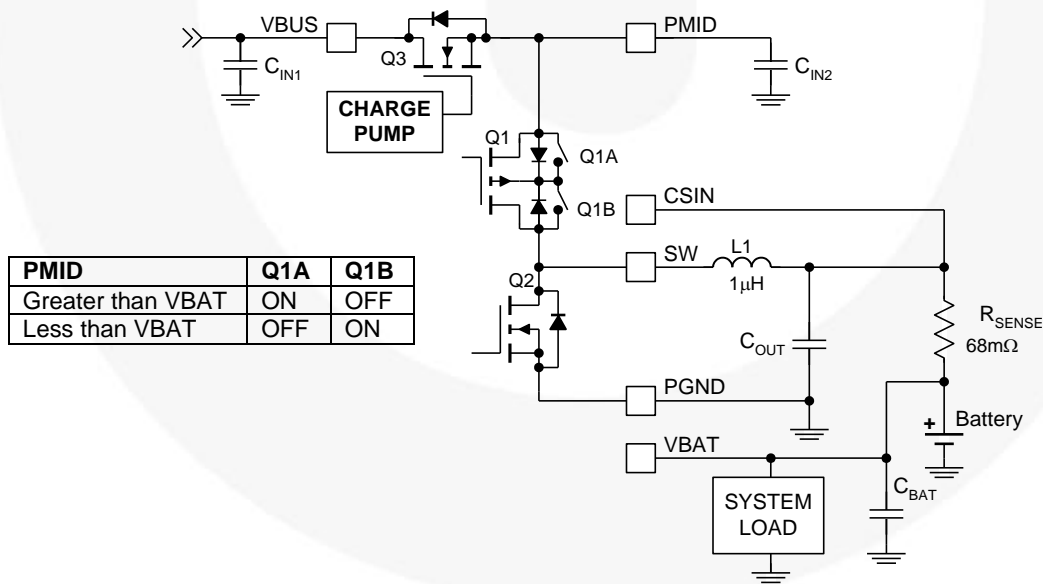

Figure 3. Power Stage
3. 6.3 V rating is sufficient for C_{MID} since PMID is protected from over-voltage surges on VBUS by Q3 (Figure 3).